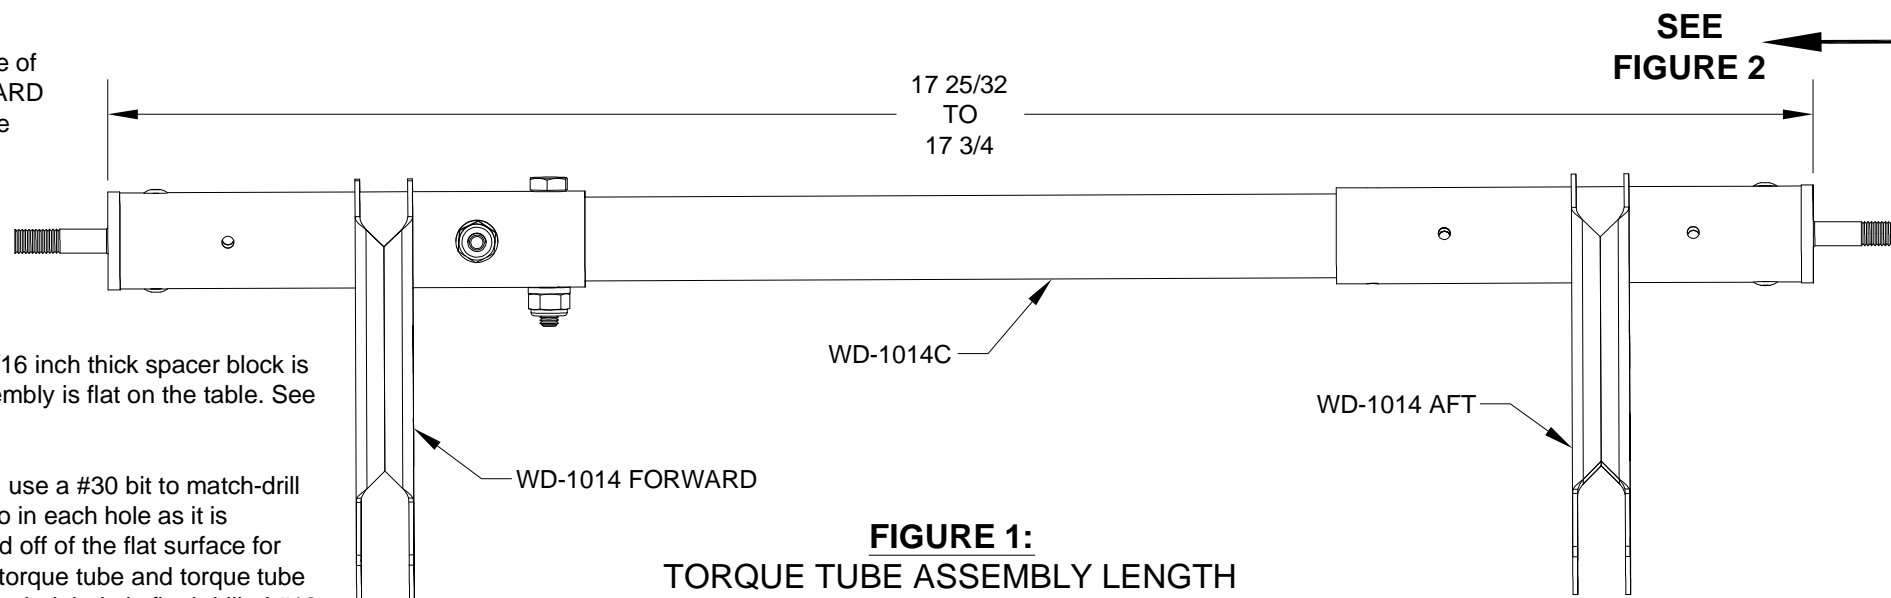

FIGURE 1:
Step 2: When assured that both the engagement and clocking of the torque tube assembly is correct, use a #30 bit to match-drill the torque tube collar using the holes in the aft torque tube subassembly as drill guides. Install a cleco in each hole as it is match-drilled. After the first hole is match-drilled and clecoed, the torque tube assembly can be moved off of the flat surface for drilling the remaining holes. See Figures 3 and 4. Using a #12 bit, final-drill through both sides of the torque tube and torque tube collar. Install a bolt, washer, and nut as shown in Page 23-7, Figure 1 to hold alignment while the other bolt hole is final drilled #12.
Step 3: Create the right side torque tube assembly by inserting the aft end of the remaining WD-1014C Torque Tube Collar into the open end of the remaining WD-1014 AFT Aft Torque Tube Subassembly as shown in Figure 1.
Adjust the engagement of the torque tube collar and the aft torque tube subassembly such that the overall length is as shown in Figure 1.